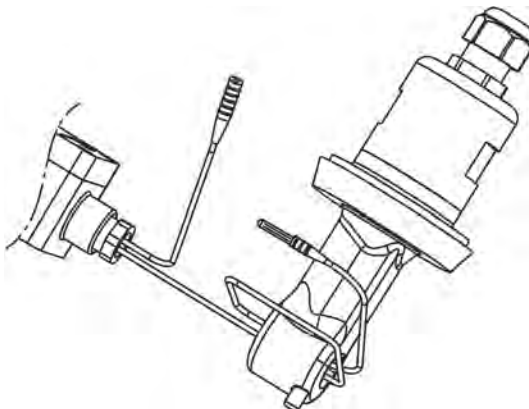

Fig. 75: Wire around Ci Sensor
Loop the cable for the calibration adapter through the bore of the measuring probe two times (see Chapter 10.2.5.5 'Ci basic adjustment' on page 146, Fig. 75) and close the loop.
4. Place the wire of the calibration adapter with two windings through the opening of the Ci sensor, without connecting the wire ends. (See Fig. 75 .)